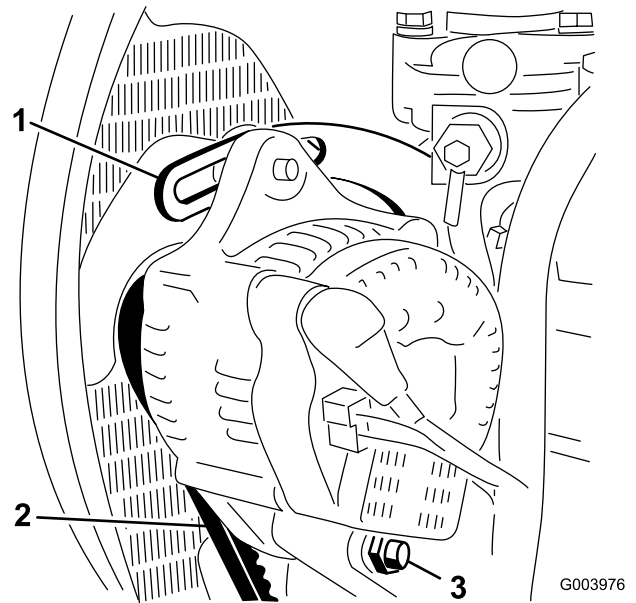

Figure 49
2. Check the tension of the alternator belt by depressing it (Figure 49) midway between the alternator and the crankshaft pulleys with 22 lb (10 kg) of force.
3. Loosen the bolt securing the brace to the engine (Figure 49), the bolt securing the alternator to the brace and the pivot bolt.